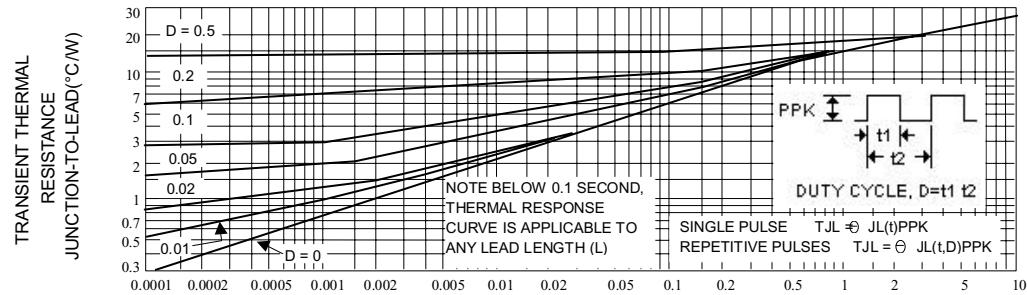
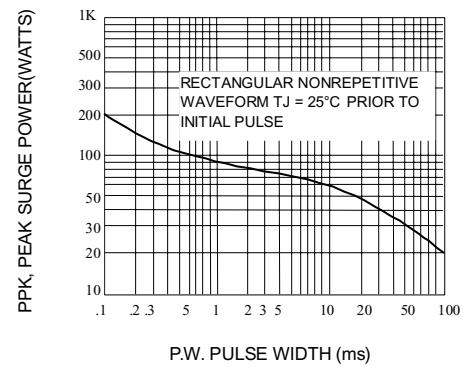

Fig. 2-TYPICAL THERMAL RESPONSE L,
Fig. 3-MAXIMUM SURGE POWER
4. SURGE CURRENT (Ir) NON-REPETITIVE - The rating listed in the electrical characteristics table is maximum peak, non-repetitive, reverse surge current of 1/2 square wave or equivalent sine wave pulse of 1/120 second duration superimposed on the test current, I_{ZT} , per JEDEC standards, however, actual device capability is as described in Figure 3.
ΔT_{JL} is the increase in junction temperature above the lead temperature and may be found from Figure 2 for a train of power pulses or from Figure 10 for dc power.
Data of Figure 2 should not be used to compute surge capability. Surge limitations are given in Figure 3. They are lower than would be expected by considering only junction temperature, as current crowding effects cause temperatures to be extremely high in small spots resulting in device degradation should the limits of Figure 3 be exceeded.